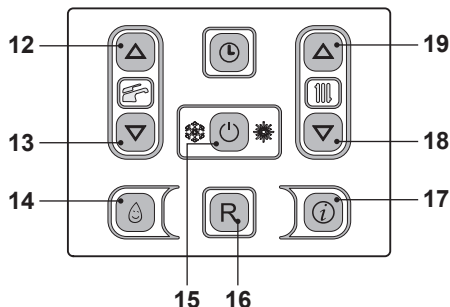
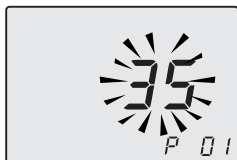

Fig. 8.35
Fig. 8.36
- Enter the "programming mode" by sequentially pressing and holding in keys, 15 - 18 and then 19 (Fig. 8.35) for 10 seconds until the letters **P01** are displayed on the LCD display and the value of the parameter (60=Inovia 25C ERP, 63=Inovia 30C ERP or 64=Inovia 35C ERP), indicating that "parameter 01" (Fig. 8.36) has been activated.
- Press keys 12 or 13 to change the value and confirm the value of the parameter with key 15.
- Press keys 18 or 19 (Fig. 8.35) to exit without changing the value.